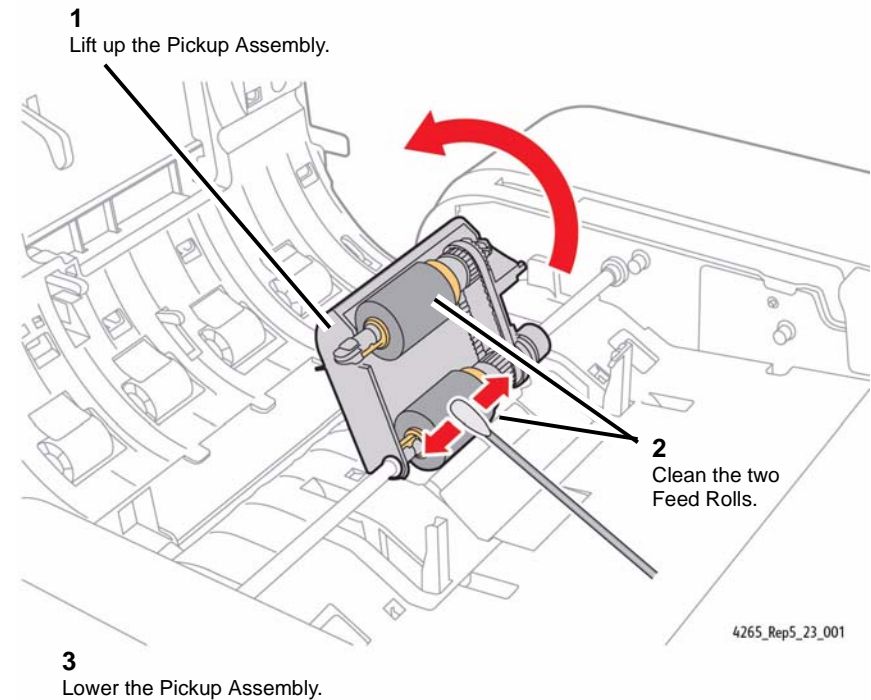

Figure 1 Cleaning the Feed Rollers
3. Clean the Feed Rollers (Figure 1).